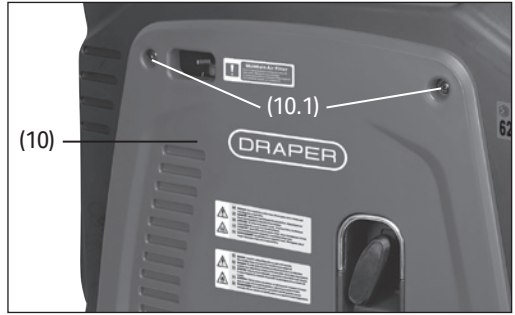

Fig. 3
2. Unscrew and remove the left side maintenance cover (10) and (10.1). (Fig.3).